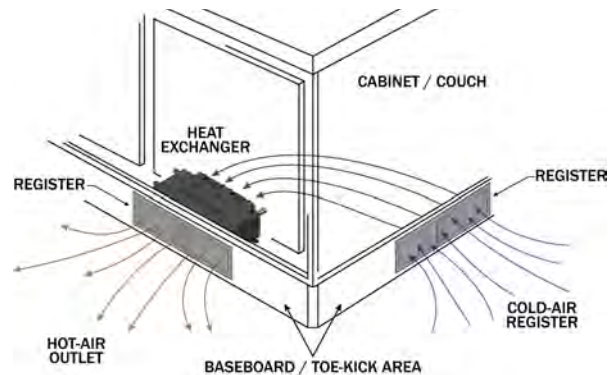

Figure 146
- Heat exchangers should be mounted as close to the hot air outlet grill as possible (reference Figure 146)